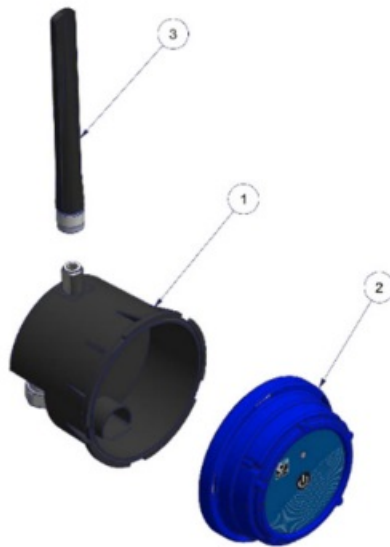

Figure 1 CV-Log-35 parts
- (1) or (A): Circled numbers and letters in the text refer to the parts described in Figure 1 and 2 respectively (example: Figure 1 – page 5)